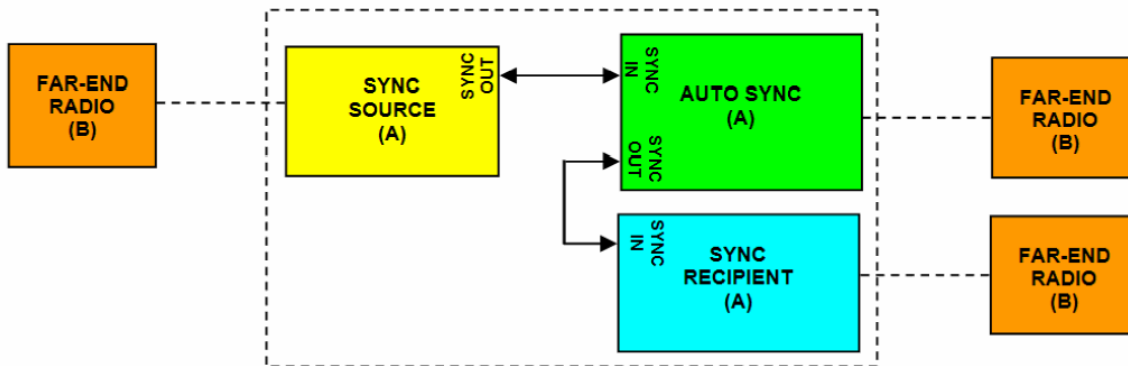

Figure 5 Collocated radios, one in AUTO SYNC mode to provide redundancy
In Figure 5, there are three collocated radios. In this configuration it may be desirable to make one radio a secondary sync source using AUTO SYNC. This provides redundancy if the primary sync source radio (A) loses power or experiences any other failure.